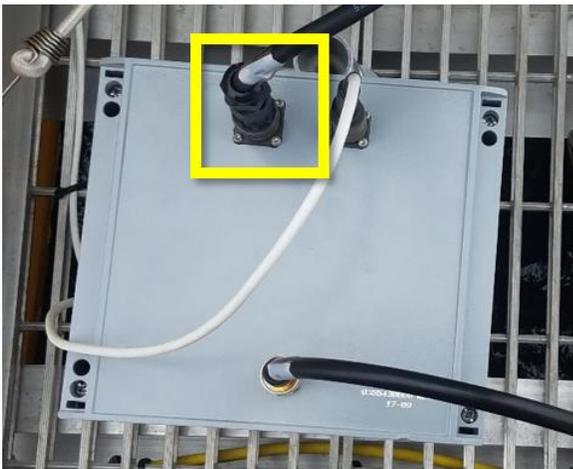

Figure 15. SUNA Radio Box on AIS Buoy: Power Connector (12-10)
**STEP 2.2 | Buoy sites:** The SUNA is powered by the SUNA radio box located under the yellow buoy housing, on the profiler winch side of the buoy t-frame (**Figure 15**).